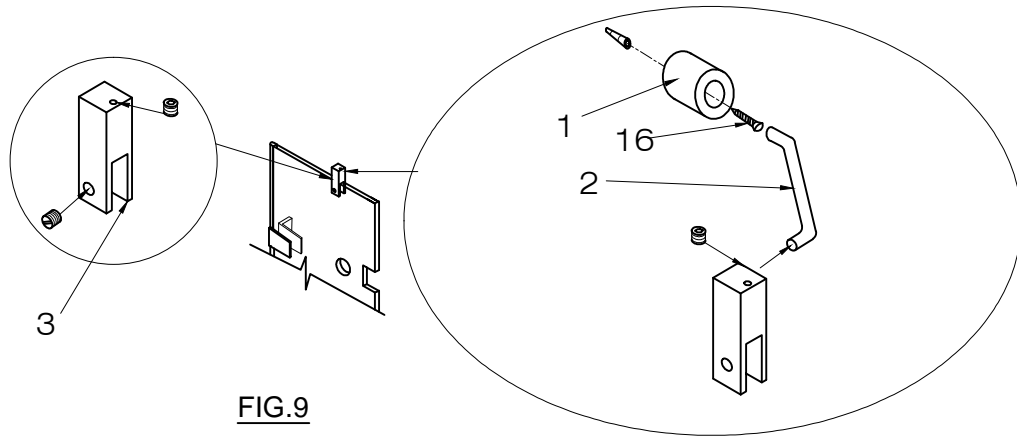

FIG.9
7. Tighten all screws. [SEE FIG.9]